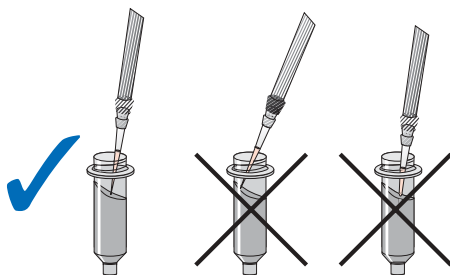

Figure 2. Instructions for sample application to the DyeEx 2.0 spin column.
5. **Carefully transfer the spin column to a clean centrifuge tube. Slowly apply the sequencing reaction (10–20 μ l) to the gel bed (Figure 2).**
- Pipet the sequencing reaction directly onto the center of the slanted gel-bed surface (Figure 2). Do not allow the reaction mixture or the pipet tip to touch the sides of the column. The sample should be pipetted slowly so that the drops are absorbed into the gel and do not flow down the sides of the gel bed. Avoid touching the gel-bed surface with the pipet tip.